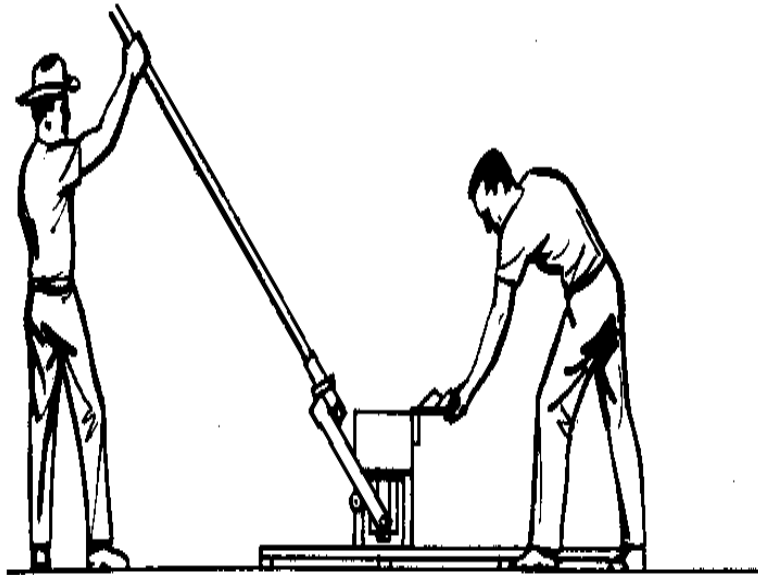

Fig. 11 - Returning the Lever to Rest Position and Opening the Mold Box.
(11) Open the cover (see Fig. 11).